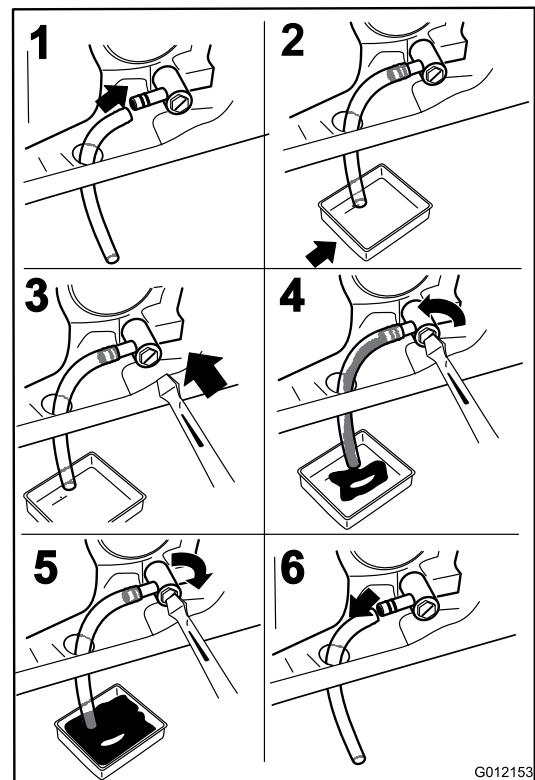

Figure 38
3. Stop the engine, remove the key, and wait for all moving parts to stop before leaving the operating position (Figure 38).